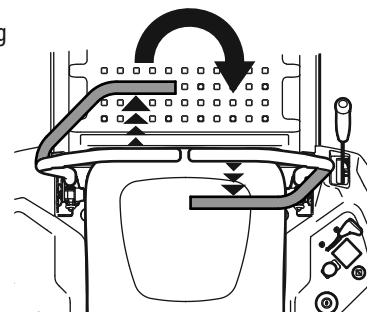

Figure 27
2. To turn clockwise, move the left lapbar drive control lever forward while simultaneously moving the right lapbar drive control lever rearward. See Figure 27.